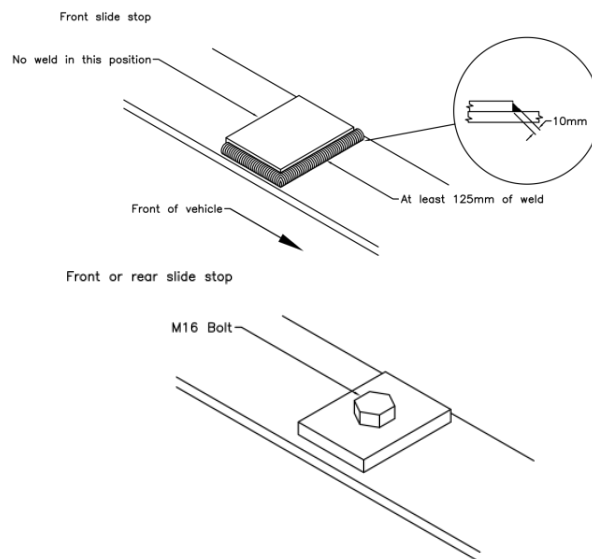

Figure 24: Example of slide stops
- When using bolts, provide at least one ISO grade 8.8 (SAE Class 5) M16 (5/8") bolt per stop (see Figure 24).
- Do not place any weld on the stop face, such as a welded front slide stop, (see Figure 24). Note the rear stop is the mirror image of the front stop.